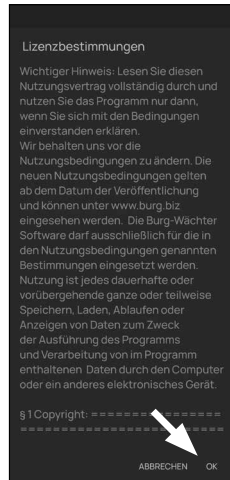

Fig. 2
- 2 You will be shown licence provisions for the use of the app when you open it for the first time. Carefully read them and then confirm by clicking "OK" in the bottom right-hand corner (Fig. 2).